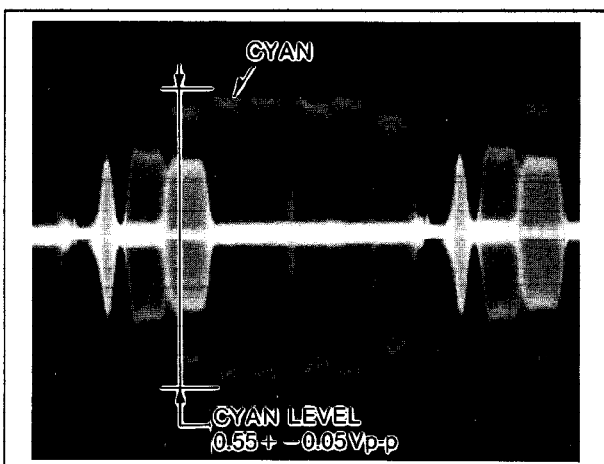

Fig.E22
4. Adjust VR801 so that the playback cyan level to be  $0.55 \pm 0.05 \text{mVp-p}$  as shown in Fig.E22.